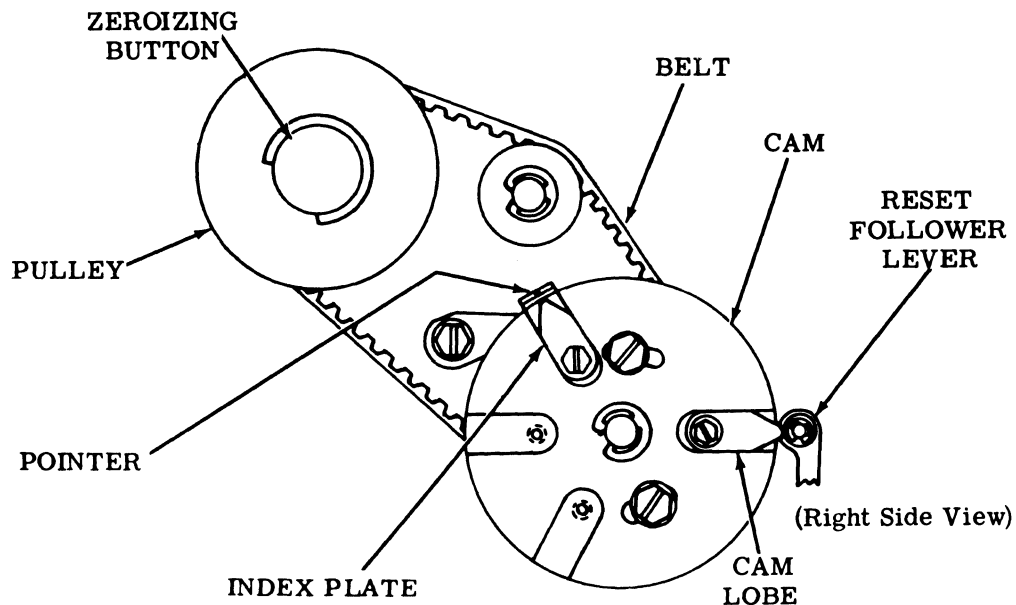

Figure 14 - Zeroizing Position of Platen Drive Mechanism — One Cam Lobe Operation
3.18 Figure 14 illustrates the zeroizing position of the platen drive mechanism for one cam lobe operation. For platen drive mechanisms using more than one cam lobe, see the CAM ZERO POSITION (Platen Drive Area, Sprocket Feed Mechanism) adjustment in Section 574-122-700TC.